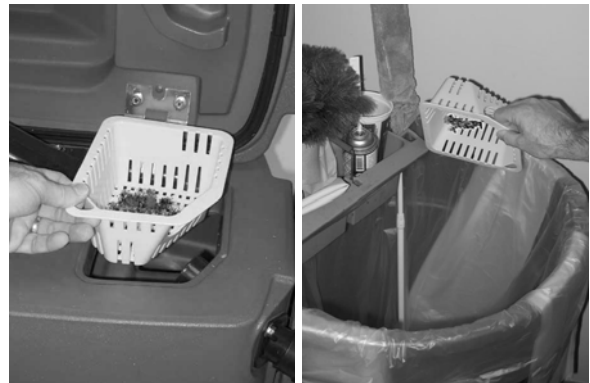

FIG. 43
2. Remove the debris tray and empty (Figure 43)